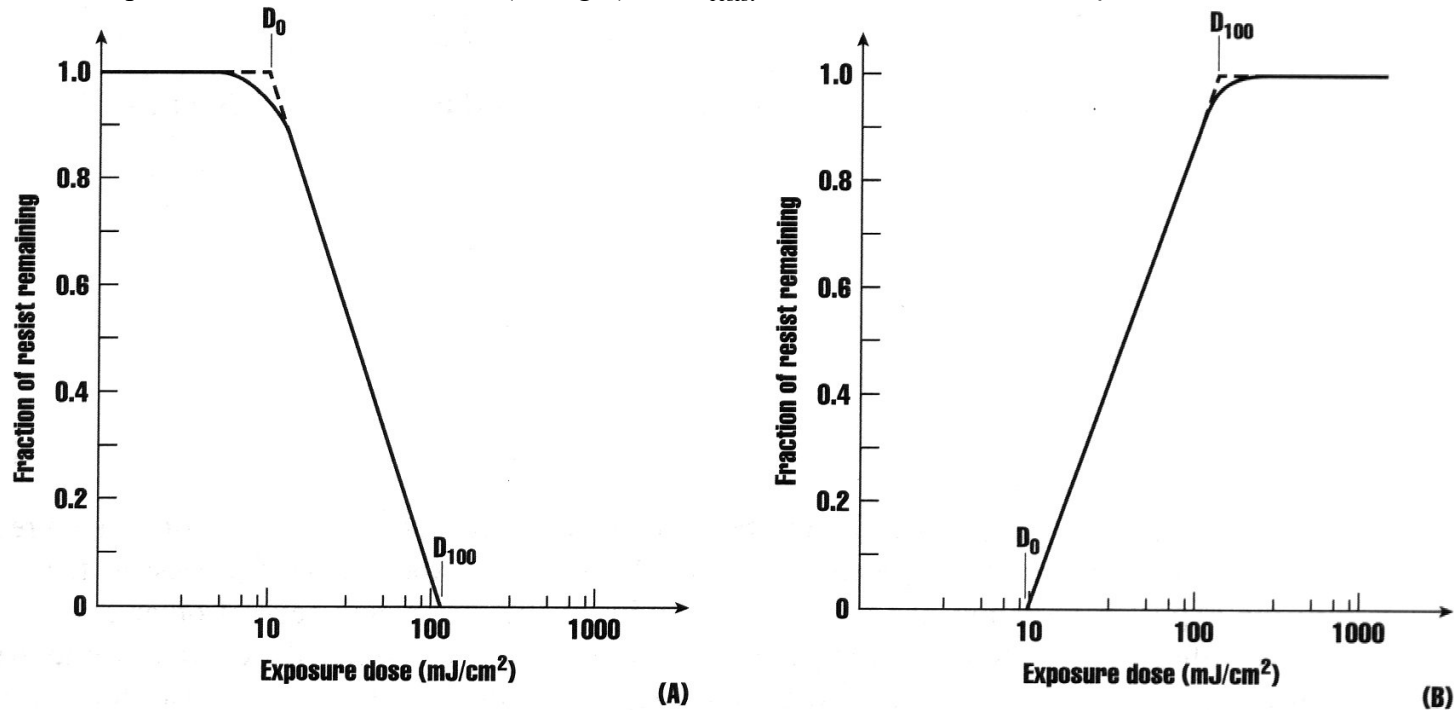

Figure 8-7 Contrast curves for idealized resists: (a) positive tone and (b) negative tone.
1.) Contrast (use figure 8-7),